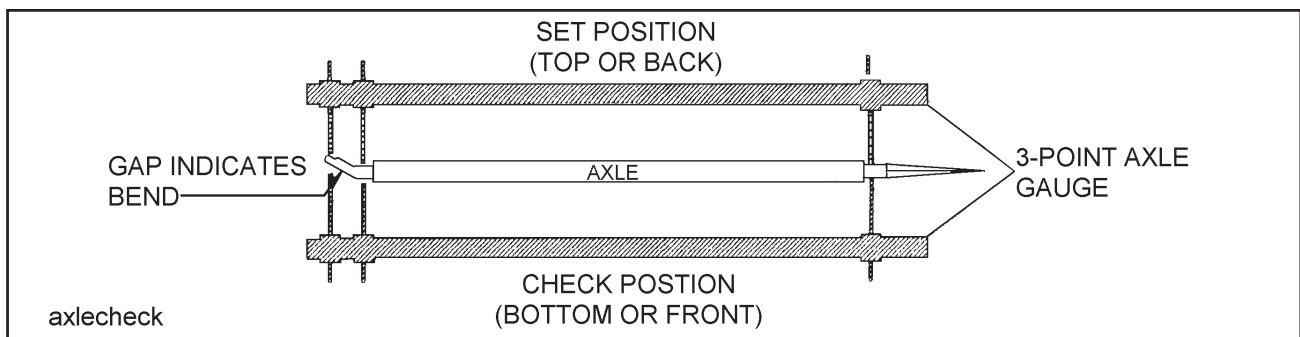

Figure 4-10 Checking Axle for Bend
- b. Place a 3-point axle gauge against the front side of the axle, and adjust each axle gauge point to the axle. (Double point end against the inner and outer wheel bearing surfaces of the spindle being checked and the other point on the inner bearing surface on the other spindle.)(See Figure 4-10).
- c. Move the axle gauge and place against the back side of the axle. If either of the points of double point end fails to touch the axle surface, a bent spindle is evident. A point gap of .015" or more is considered excessive tire "toe" and the axle must be replaced (See Figure 4-10).